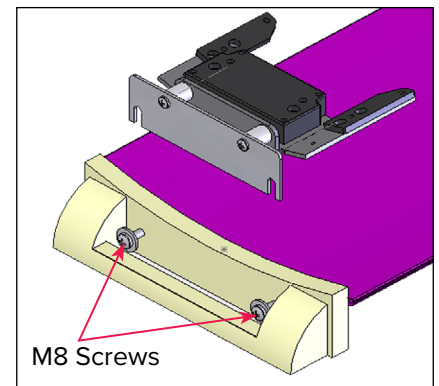

Fig. 23
2. Remove the CT cradle screws (2) from the hole.
3. Install M8 screws with flat and lock washers (2) into the CT cradle holes. Leave the screws loose (Fig. 23).